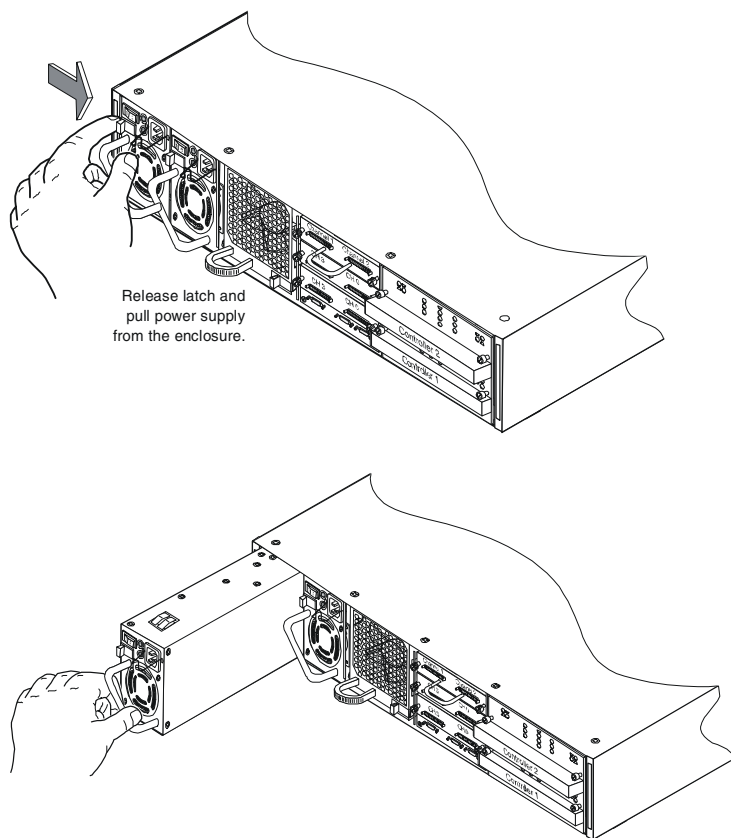

Figure 5-11 Removing a PSU
- 3 Using your thumb and fore finger, squeeze the power supply release latch while pulling the power supply from the storage subsystem, as shown in Figure 5-11.